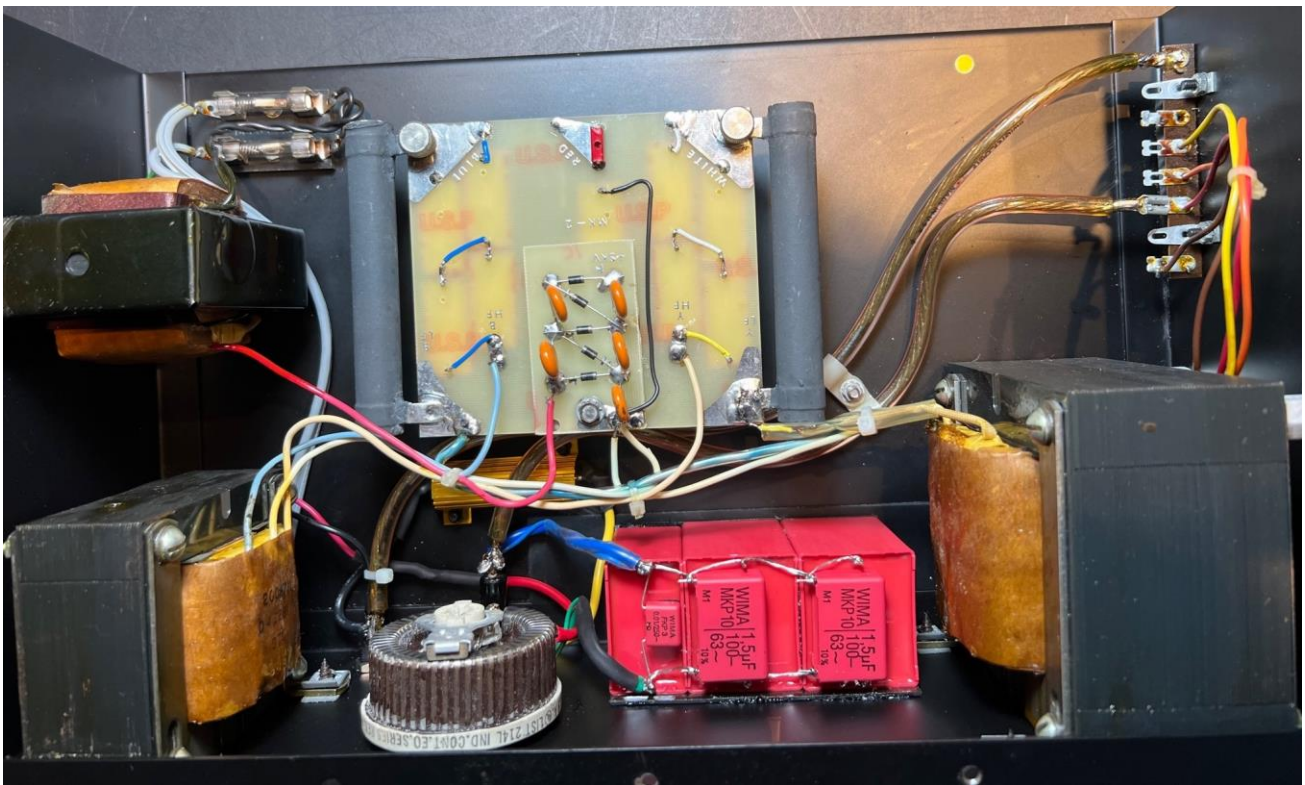

Figure 15. C-Mod with WIMA polypropylene capacitors and 10-ohm 50W metal clad resistor – before Low Frequency repair.
- To minimize transmission of vibrations with the metal chassis, the base and side of the WIMA capacitors were isolated using foam sheeting (Fig. 15).